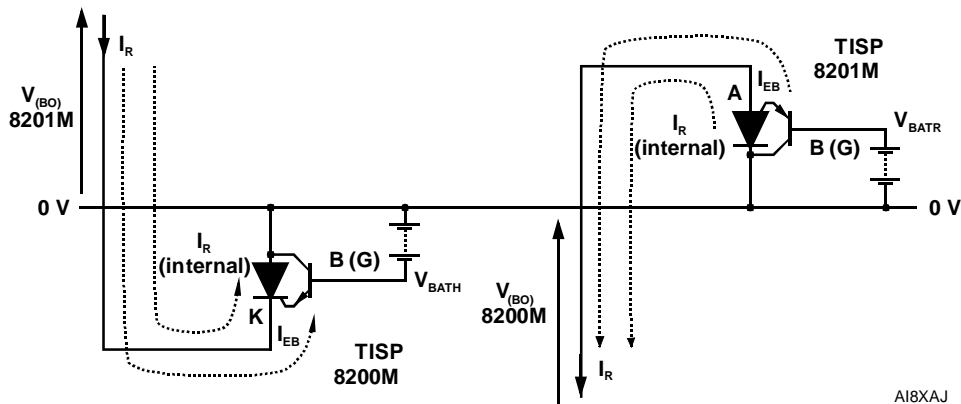

Figure 7. Reverse Current Verification
**Testing transistor EB and SCR AK reverse:** The highest reverse EB voltage and reverse AK voltage occurs during the overshoot period of the other protector. For the TISP8200M, the SCR has  $V_{BATR}$  plus the TISP8201M overshoot above  $V_{BATR}$ . The transistor EB has an additional  $V_{BATH}$  voltage applied (see Figure 7). The reverse current,  $I_R$ , flowing into the K terminal will be the sum of the transistor IEB and the actual internal SCR  $I_R$ . The reverse voltage applied to the K terminal is the TISP8201M protection voltage,  $V_{(BO)}$  ( $V_{BATR}$  plus overshoot), and the G terminal has  $V_{BATH}$ . Similarly for the TISP8201M,  $I_R$  is measured with the TISP8200M  $V_{(BO)}$  applied and it is the sum of the transistor IEB and the actual internal SCR  $I_R$ .  $V_{BATR}$  is applied to the G terminal.